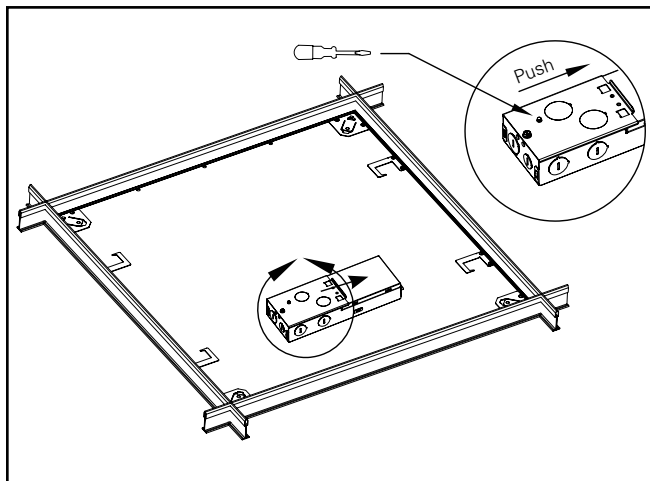

Figure 6.
8. Tuck all wires and wire nuts into the fixture junction box, replace electrical access plate, and snap securely into place. (Figure 6.)